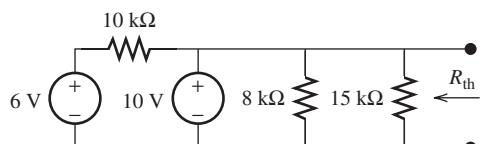

FIGURE P3.53 Circuit for Problem 3.53.
- 3.53 (B)*** Find the Thévenin resistance for the circuit in Figure P3.53: